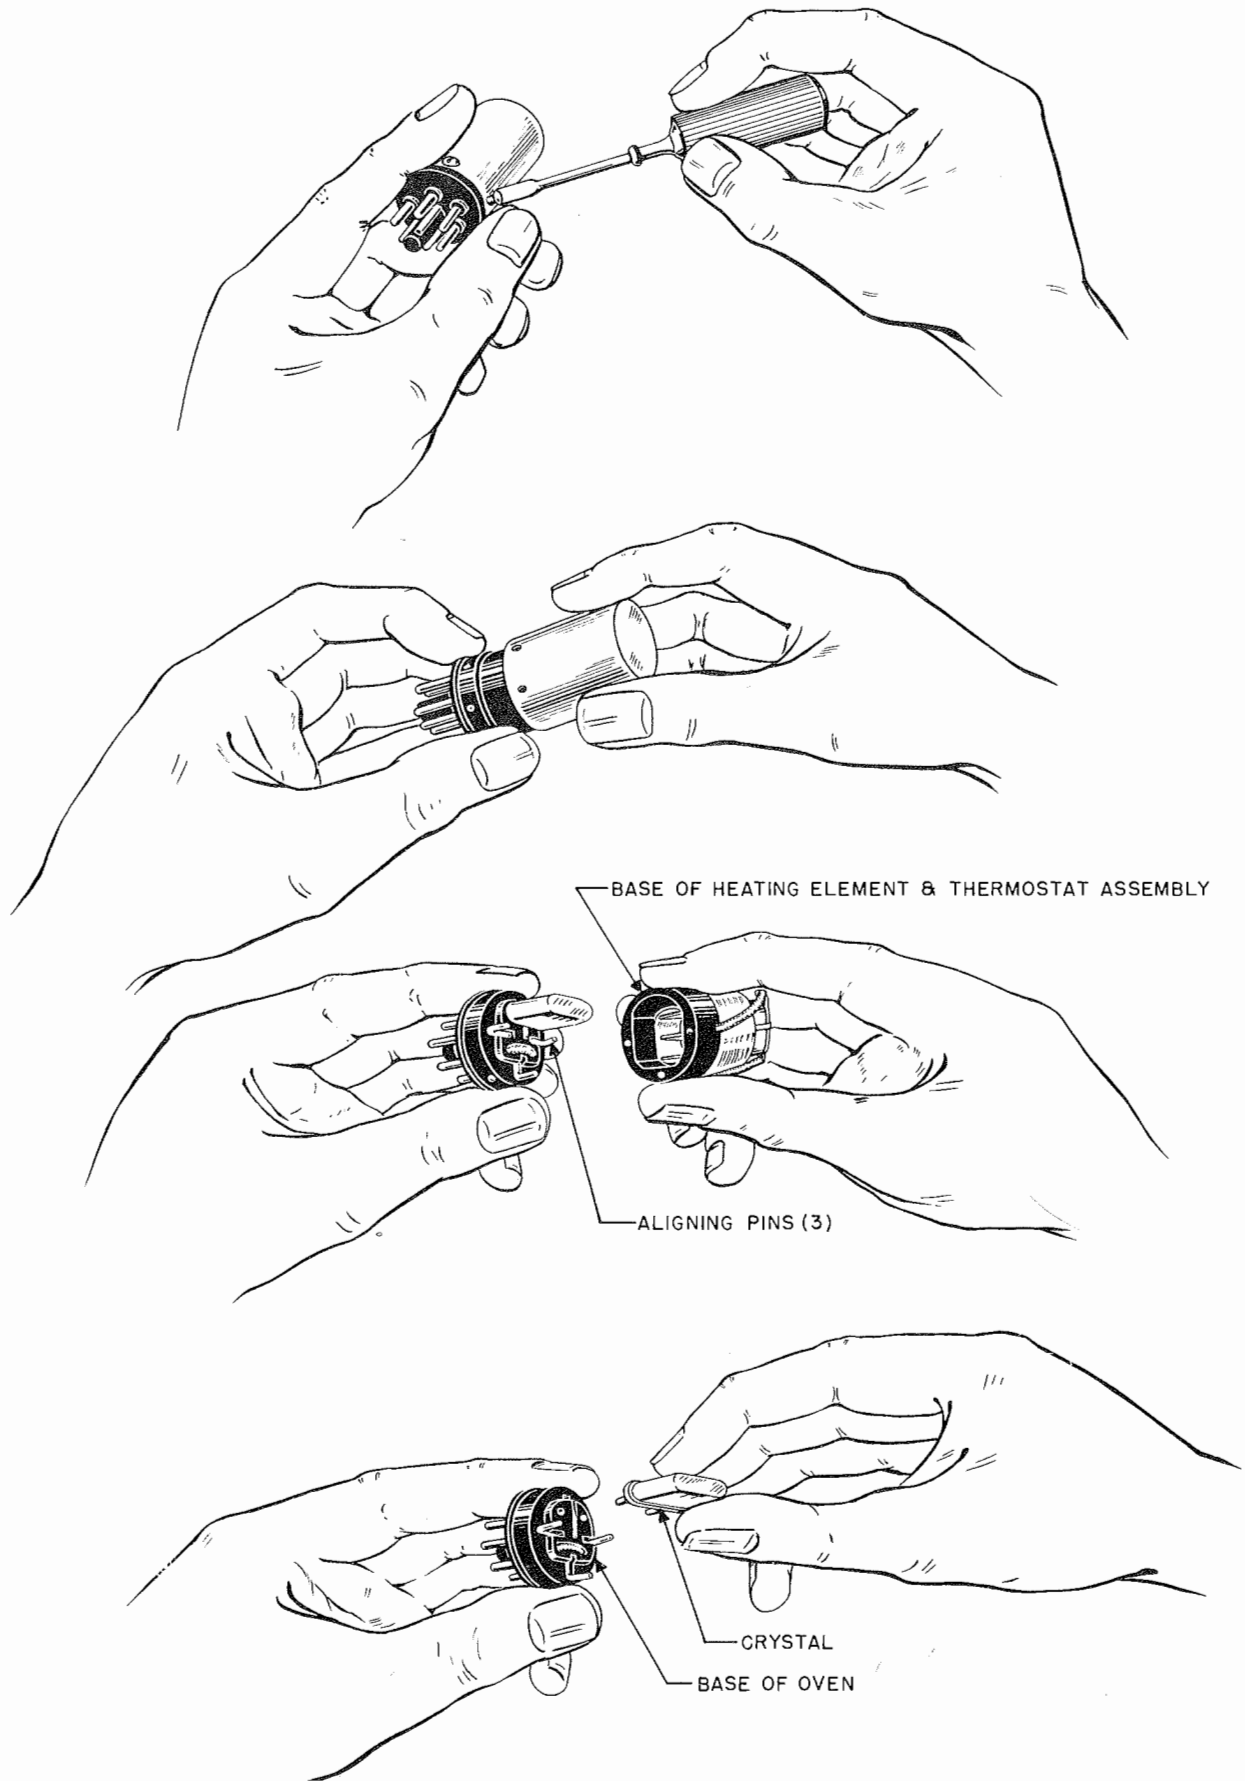

Figure 5-16. Radio Transmitter, Crystal Oven and Assembly (Type JKO-2R)
d. Remove crystal from Type JKO-2R oven as follows (see figure 5-16):